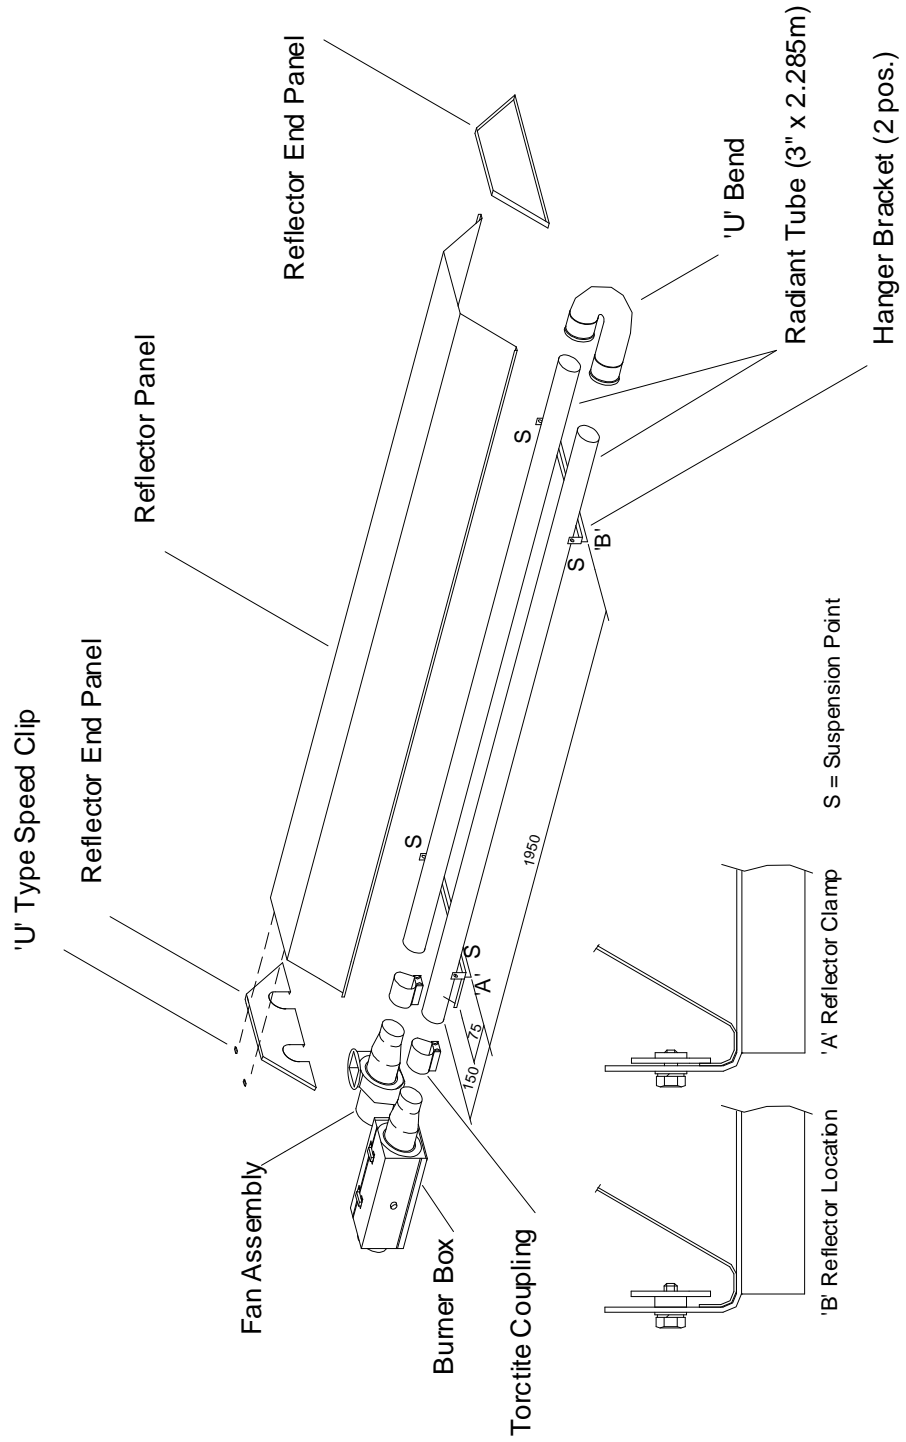

Fig. 14
- 4.1.2 Assemble the two Hanger Brackets to the Radiant Tubes using two 'U' bolts per bracket (from fastenings pack) and position along the Radiant Tubes as shown in Fig 14. Tighten the nuts sufficiently to retain the Hanger Brackets. Do not over tighten.
- 4.1.5 Place the Reflector Panel onto the Hanger Brackets, positioning the Reflector at the Control Box end between the bracket and the Torctite Coupling. Clamp the Reflector to the Hanger Brackets using the retainers and M6 setscrews and washers (fastenings Pack - qty 4) as shown in Fig 14.
- 4.1.6 Position the Reflector End Panel (notched) over the Radiant Tubes and into the end of the Reflector Panel with the End Panel flange flush with the end of the Reflector. Secure the Reflector End Panel to the Reflector Panel by use of 6 'U' type speed clips provided (fastenings pack); 2 clips per facet of Reflector Panel, as shown in Fig 14.
- 4.1.7 The appliance should now be raised and suspended from previously fixed chains or drop rods as detailed in Section 3.1, at suspension points indicated in Fig 14. Rope or webbing slings should be used when lifting from above. If using a forklift to position the appliance, ensure that the appliance is balanced on the forks prior to lifting.